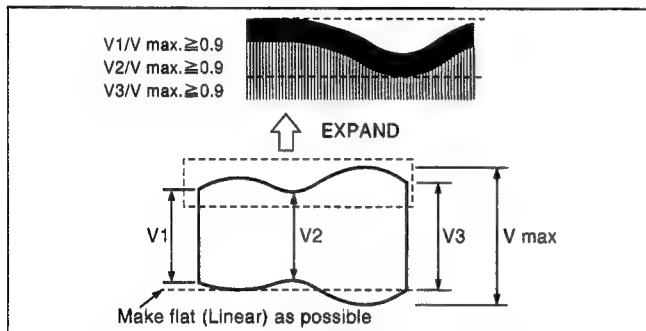

Fig. M-9
2. Connect the oscilloscope to "Envelope" and "GND" on the Measuring TP Board (VFK1409). Then playback the Alignment Tape (VFM3110EDS) and adjust S1 and T1 posts so that the envelope output is within following specification (Fig. M-9). Use "HID1" as a trigger.